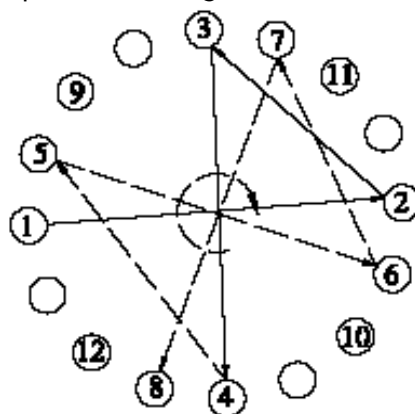

Fig.9. Sequence of tightening
- A2.3. Tighten the other bolts in the sequence shown in Fig.9, the same way.